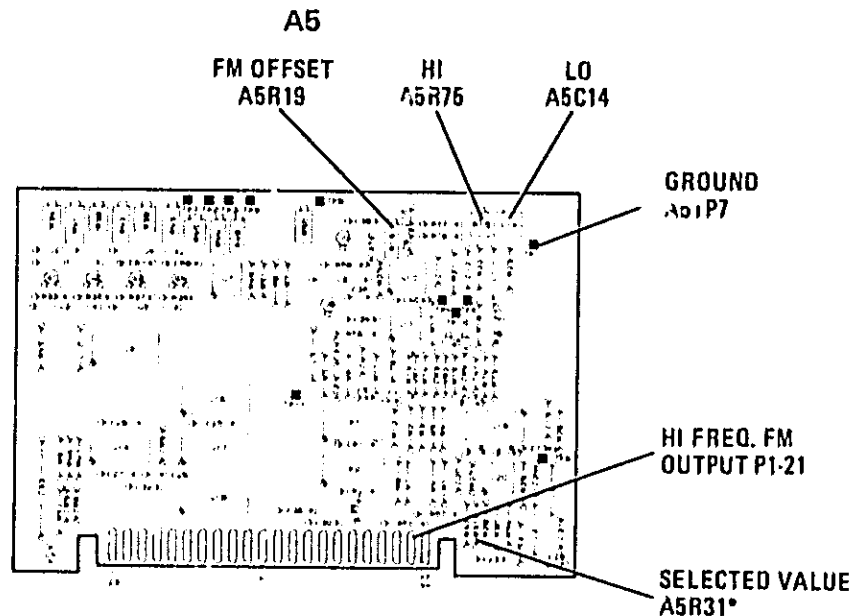

Figure 5-30. A5 FM Driver Adjustment Location
3. Connect DVM between A5 board connector pin 21 and A3TP7 (ground). (See Figure 5-30.) Adjust A5R19 "FM OFFSET" control for zero Vdc  $\pm 1$  mVdc.
8. Manually sweep function generator frequency from DC to 100 kHz. Select resistor A5R31 (Figure 5-30) so amplitude at 100 Hz and at 100 kHz are the same ±0.2 cm on CRT. Refer to Table 5-2 for the allowable range of values for A5R31.
9. Manually sweep function generator frequency from DC to 10 MHz. Adjust A5C14 "LO" and A5R75 "HI" controls several times (Figure 5-30) to obtain the most constant overall response from DC to 10 MHz.